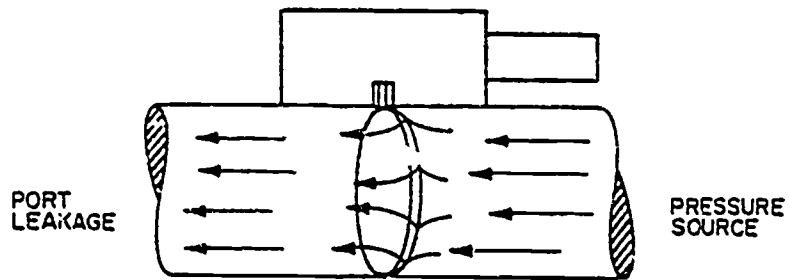

Figure 3
1. In the next step, you will check for port leakage. Port leakage is leakage past the valve butterfly with the valve in the CLOSED position. Figure 3 is an illustration of port leakage.